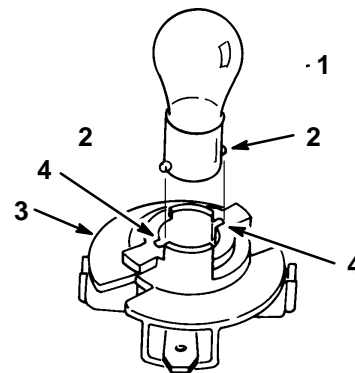

Figure 48
1. The bulb has metal pins on the side of its base. Align the pins with the slots in the bulb holder and insert the base into the holder (Fig. 48). Push and rotate the bulb clockwise until it stops.
4. Push and rotate the bulb counterclockwise until it stops (approx. 1/4 turn) and remove the bulb from the bulb holder (Fig. 48).